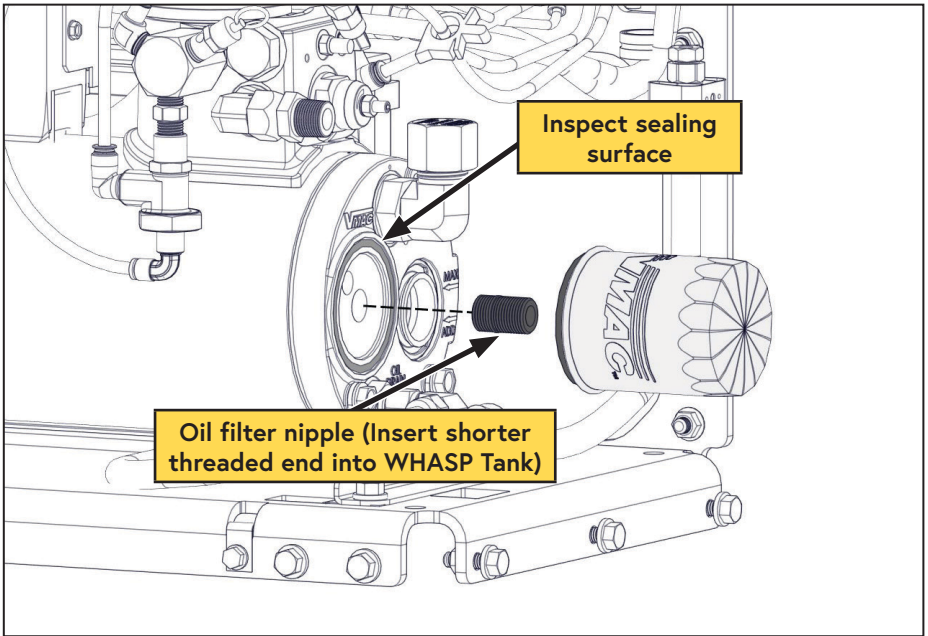

Figure 32 — Compressor oil filter
- *To reinstall the nipple, thoroughly clean the threads and apply Loctite 242 (blue) to the end with the short threads and replace it in the AOST (Figure 32).
- Clean the gasket sealing surface on the front of the tank and inspect it for damage. The surface must be free of old gasket material and smooth to ensure a good seal. (Figure 32).